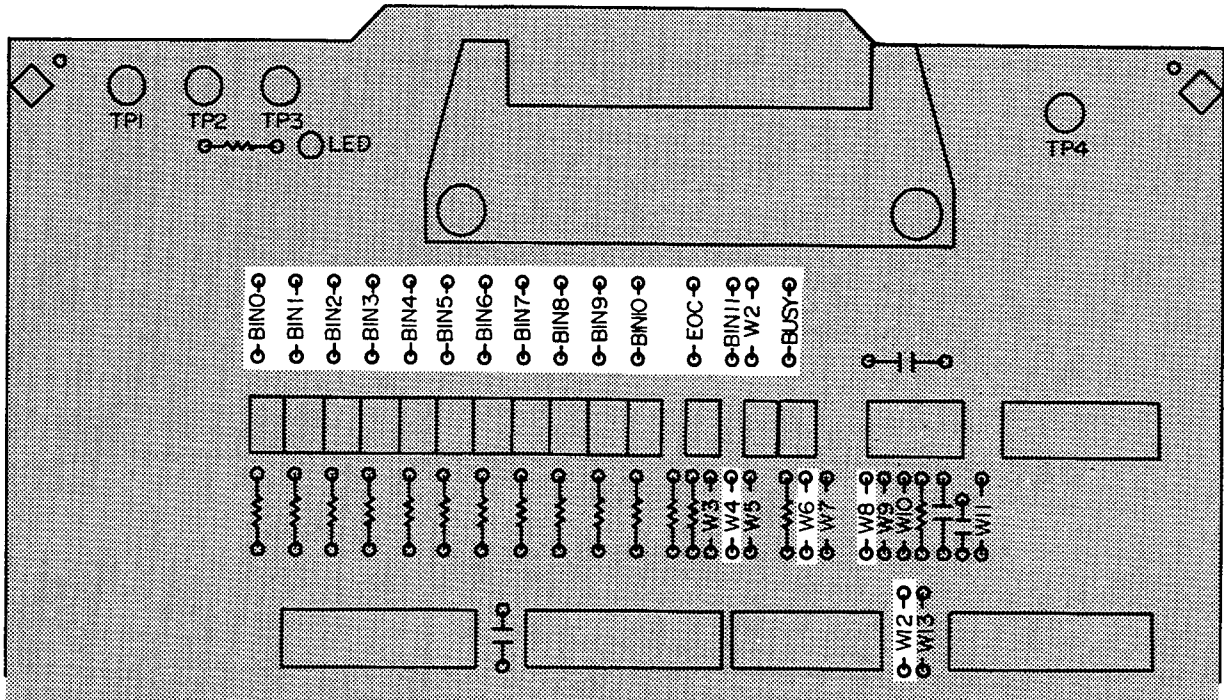

Figure 4-28. Palomar M11 Jumper and Pull-up Resistor Locations
1. Configure the following interface signals by installing the jumpers as shown in Figure 4-28.
2. All I/O signals are TTL level so you must install all pull-up resistors to + 5V (install pull-up resistors **R101 ~ R114**). Refer to Figure 4-28 for the pull-up resistor locations.
3. Bring + 5V out through pins 12 and 17 of the handler interface rear panel connector (install a jumper at **W2** for the **COMMON** connection). Refer to Figure 4-28 for the locations of **W2**.